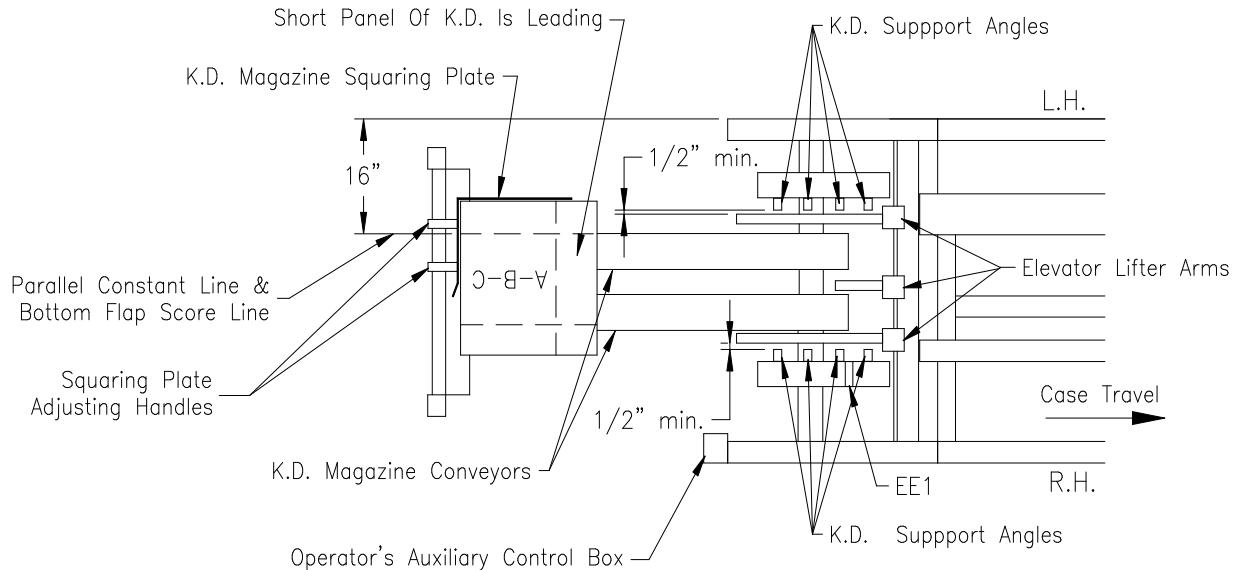

FIGURE 4.7 - ADJUSTING ELEVATOR LIFTER ARMS
- Remove the K.D. previously placed into the opener section. Use the operator's controls to energize the machine, then carefully trip EE1 (located at the bottom of the elevator) to raise the elevator lift arms [three (3) total]. Push the stop button when the elevator lifter arms are level with the K.D. support angles [eight (8) total]. De-energize the machine and arrange the elevator lifter arms in between the K.D. conveyors and the side K.D. support angles (maintain a minimum of 1/2" from the edge of the K.D. support angles) See figure 4.7.
- Starting at the auxiliary magazine, place a K.D. (with the short panel of the K.D. leading) on the end of the table top chain conveyors against the squaring plate. Loosen the adjustment handles to align the squaring plate so that the bottom flap score line of the K.D. is even with parallel constant line of the machine (16" from the left hand side of the machine). Tighten the adjusting handles and load the auxiliary magazine (do not stack the K.D.'s higher than the top of the squaring plate). See figure 4.7.